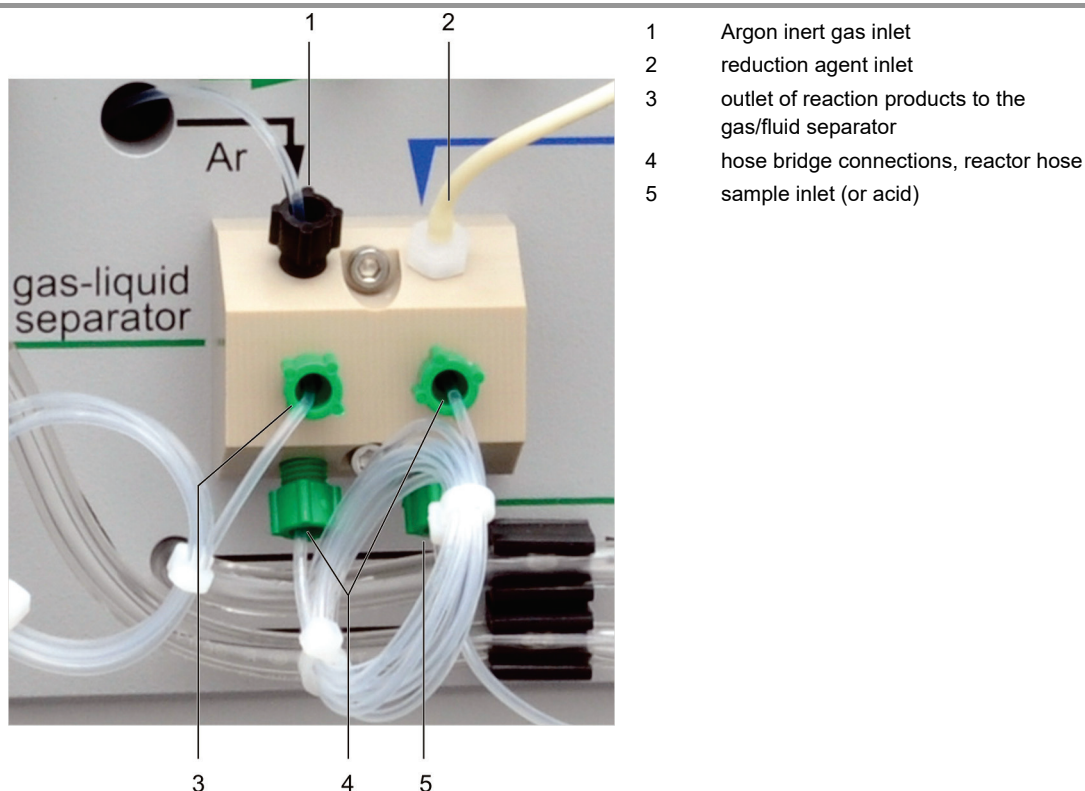

Figure 24 Reactor with connections
- Pump hose for reduction agent (2, see Figure 24)
- Sample/acid hose from the 2-valve group (5)
- Hose bridge connections (4)
- Gas supply hose (1)
- Hose to the gas/fluid separator (3)